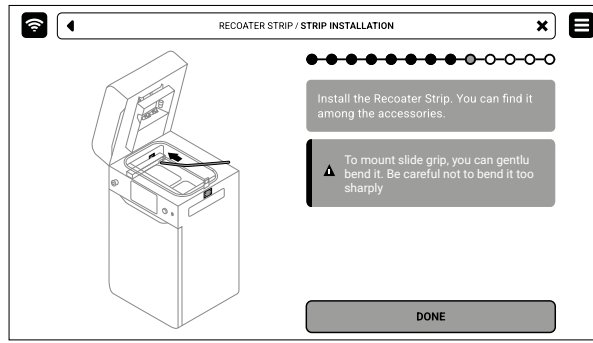

Fig. 13.12 Installing the replacement Recoater strip.
11. Slide the new Recoater strip under the angle brackets (far side first) (fig. 13.12).